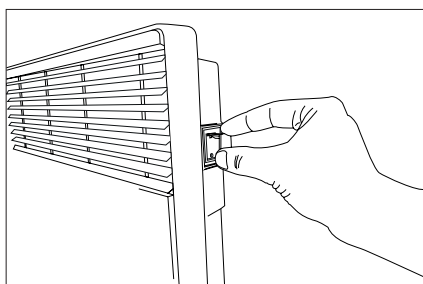

FIG:7
- Holding the key with the tooth at the top, note the T shape of the tooth. On the top right hand side of the heater is a plastic cover, on this cover you will see a corresponding T slot. Locate the key into the T slot on the heater (see fig 7).